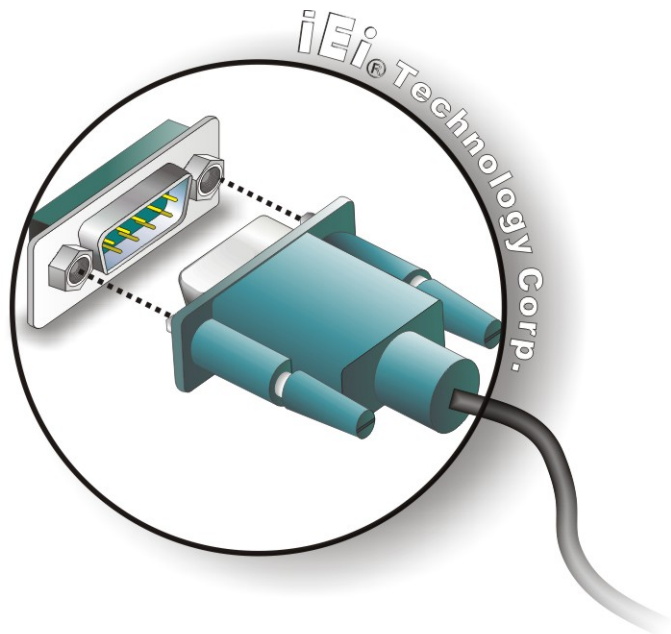

Figure 3-10: Serial Device Connector
Step 2: **Insert the serial connector.** Insert the DB-9 connector of a serial device into the DB-9 connector on the external peripheral interface. See **Figure 3-10**.